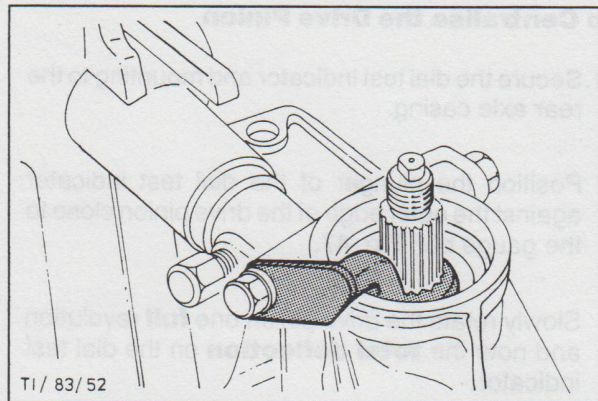

Fig. 44. Holding Tool GV-1504 in use.
19. Insert the drive pinion in the rear axle casing and fit the outer taper roller bearing. Fit the pinion nut and hold it using Holding Tool GV-1504, Fig. 44.